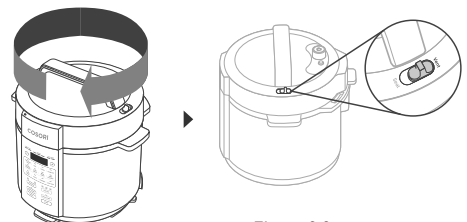

Figure 9.2
2. Close the lid on the pressure cooker and turn clockwise to secure. Move the steam release switch to '**Vent**'. [Figure 9.2]